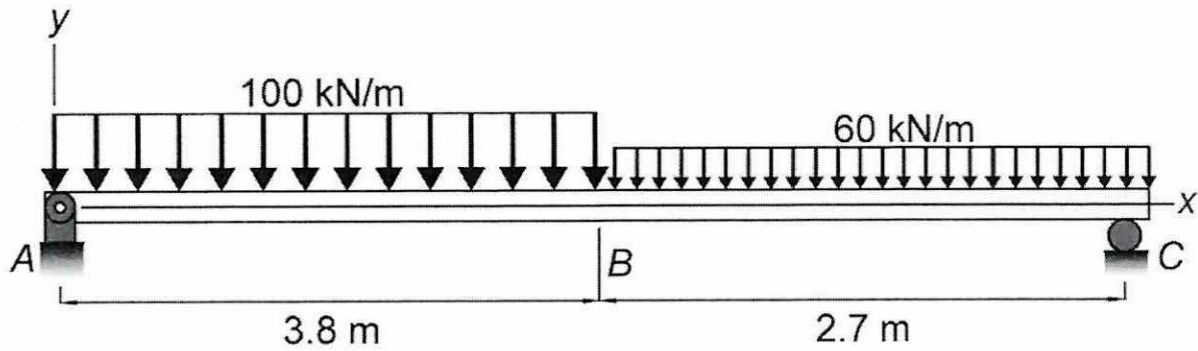

FIGURE Q3
- Q3** The simply supported beam shown in **Figure Q3** consists of a W530 × 92 structural steel wide-flange shape [$E = 200$ GPa, $I = 554 \times 10^6$ mm⁴].